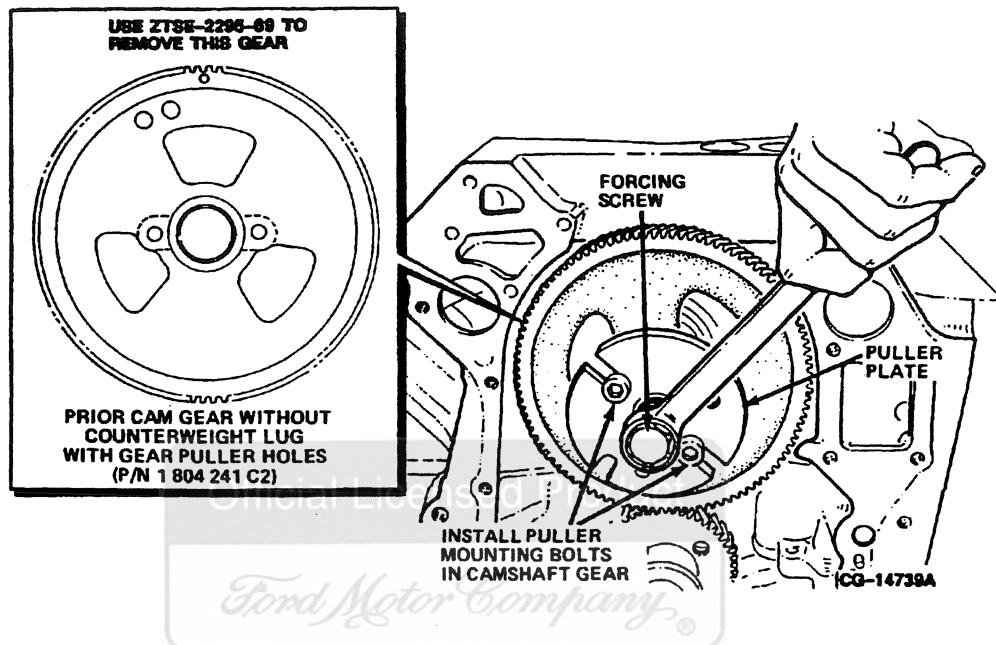

Figure 4.16A. Removing Camshaft Gear Using ZTSE-2295-69
3. Remove the prior camshaft gear with gear puller holes using ZTSE-2295-69 Puller, Figure 4.16A.
4. Attach the vibration damper, crank and cam gear remover ZTSE-2295-69 (Figure 4.16A) to the cam gear using two bolts threaded through the long slots in the puller plate. Use the small shaft protector and position it on the end of the cam shaft. Turn the forcing screw (Figure 4.16A) to remove the gear.